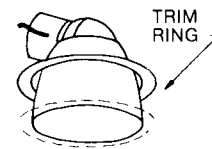

FIG. 4
**NOTE:** For Overlapping Trim installation slip WHITE TRIM RING on over REFLECTOR HOUSING, as shown on Fig. 4 and 5, before Snap-in. For Flangeless Trim installation, WHITE TRIM RING is not required.